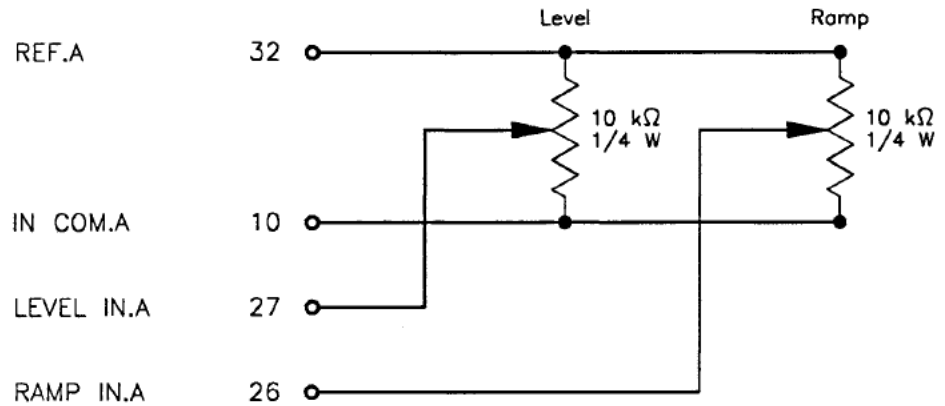

Figure 3-8. Wiring diagram for externally programming the ramp timer and the output setpoint.
*pin 26. *RAMP IN.A*.* This input signal is used to remotely program ramp time (see Fig. 3-8, page 3-25). A span of 0-5 V corresponds to ramp time: 5 V = maximum ramp time (10 min. $\pm 1\%$) when **REMOTES RAMP** has been selected on the front panel. This signal should be referenced to *IN COM.A (pin 10)*.
*pin 27. *LEVEL IN.A*.* This input signal is used to remotely program the output level (see Fig. 3-8, page 3-25). A span of 0-5 V corresponds to output: When **REMOTES LEVEL** has been selected on the control panel, 5 V = actual maximum output level (10 A, 1000 V, 5 kW for a standard MDX 5K; 20 A, 1000 V, 10 kW for a standard MDX 10K, etc.) $\pm 2\%$, or $\pm 0.2\%$ of the maximum output level, whichever is greater. This signal should be referenced to *IN COM.A (pin 10)*.